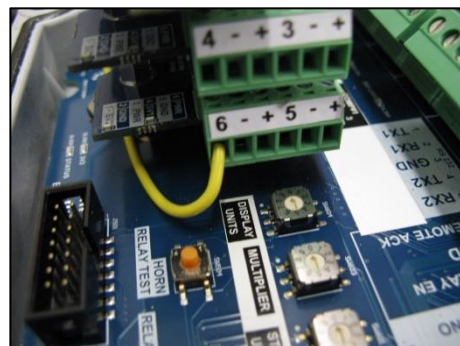

Figure 2-6-8C, Connect yellow wire to SV6
- iii) Connect a 3rd wire (Yellow) to the 3-way connector and install it into SV 6 of the expansion board. (Figure 2-6-8C).